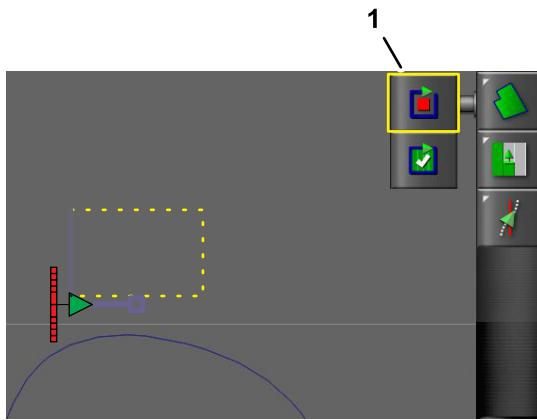

Figure 48
- Move the machine, and align the outside, center part of the left front tire at the next point of the straight sided field boundary, and stop the machine (Figure 48).
4. Press the RECORD FIELD BOUNDARY icon, and press the PAUSE FIELD BOUNDARY RECORDING icon (Figure 48).